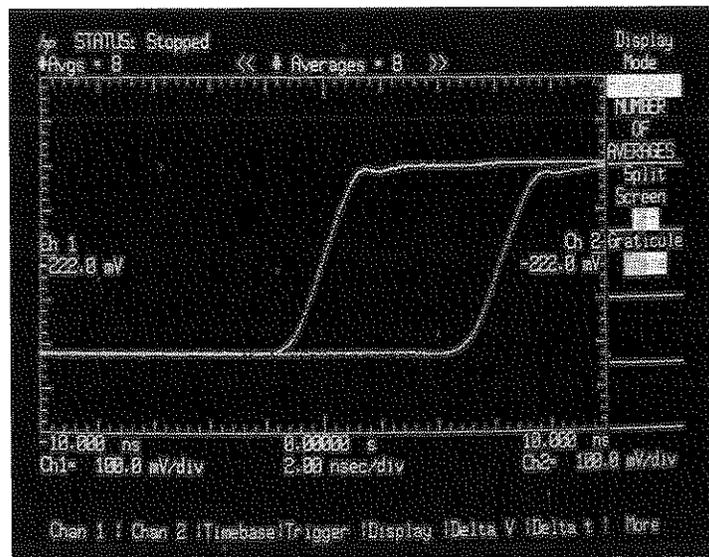

Figure 7-24. Time delay Chan 1 to Chan 2.
1. Connect a cal signal to chan 1 using a 1 metre BNC cable; connect the other cal signal to chan 2 using a 2 metre cable. The time delay between the signals that is created by the unequal cables is approximately 6.4 ns. (See figure 7-24)